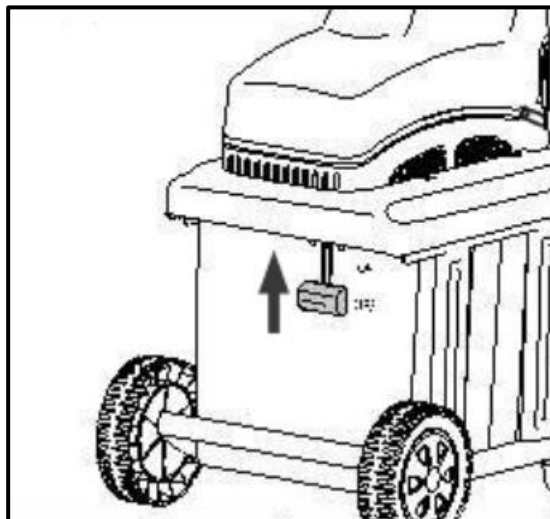

Fig.10
9. Lock the collection box in position by pushing safety switch upwards. (Fig. 10)